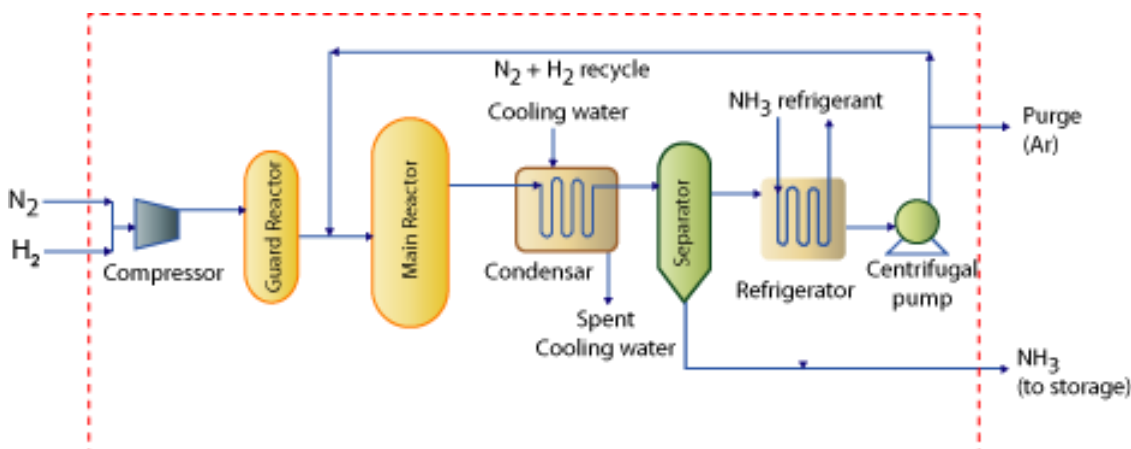

Figure 1.1: Process flow sheet for ammonia manufacture using Haber's process.
Illustration of quickly learning process technology: Ammonia manufacture using Haber's process (Figure 1.1)
- c) **Process technology:** Illustrated in Figure 1.1